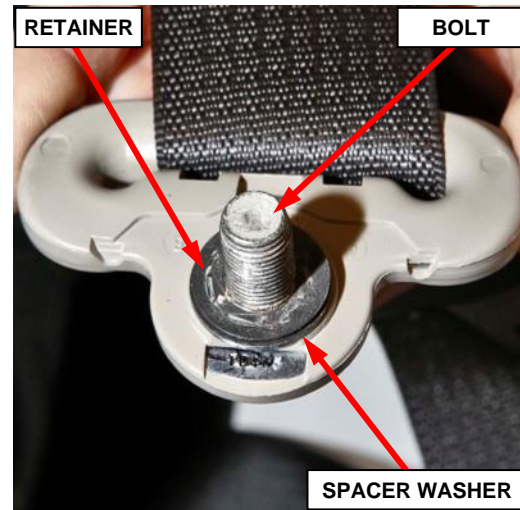

Figure 75 – Turning Loop Bolt
64. Remove and **DISCARD** the bolt retainer and the bolt from the seat belt turning loop, save the spacer washer for reuse (Figure 75).